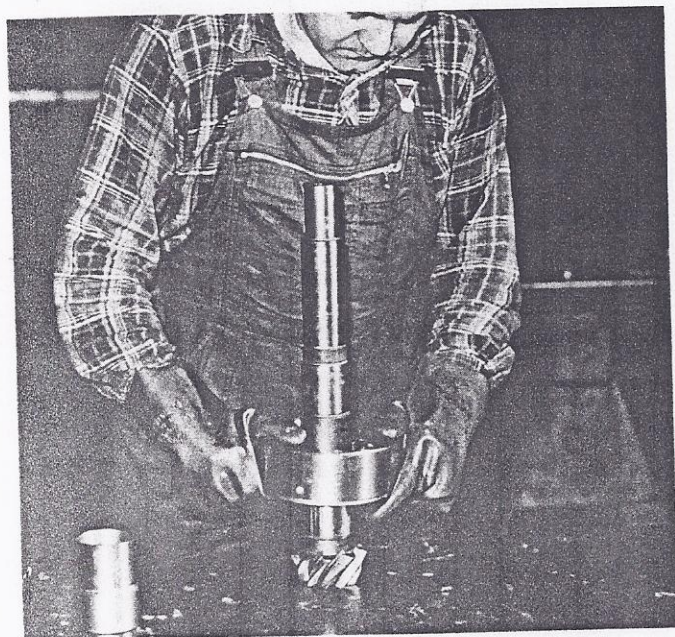

Fig. 18
Heat inner race of inner bearing (151) and outer bearing set races. Stand bevel pinion on pinion face. Slide parallel roller bearing inner race over pinion shaft against shoulder of pinion. Place outer race of bearing (151) into housing (154), replace circlip and slide assembly down over inner race, fig. 18.